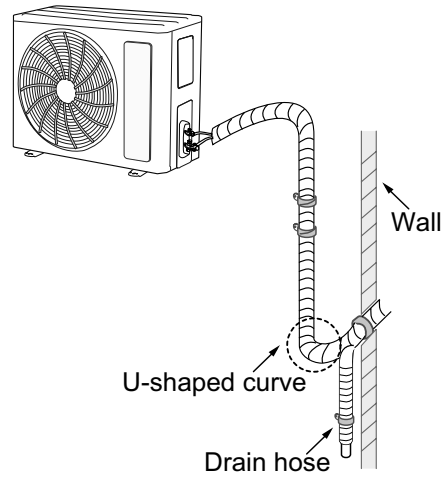

Fig.24
- (1) The pipes should be placed along the wall, bent reasonably and hidden possibly. Min. semidiameter of bending the pipe is 10cm.
- (2) If the outdoor unit is higher than the wall hole, you must set a U-shaped curve in the pipe before pipe goes into the room, in order to prevent rain from getting into the room. (As shown in Fig.24)